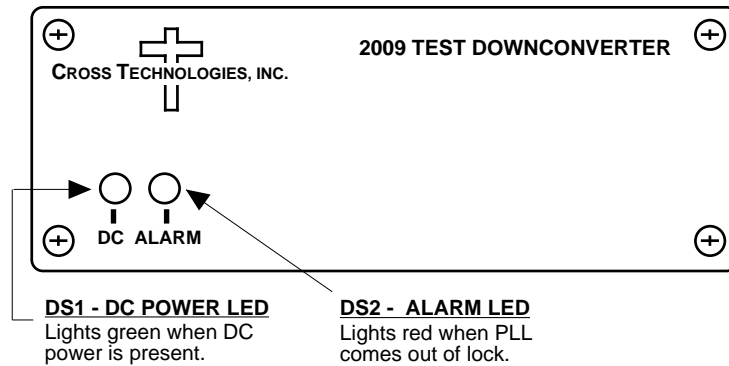

FIGURE 2.2 Model 2009-137 Front Panel Indicators
Figure 2.2 shows front panel indicators.
4. Be sure DS1 (green, DC Power) is on and DS2 (red, Alarm) is off (Figure 2.2).